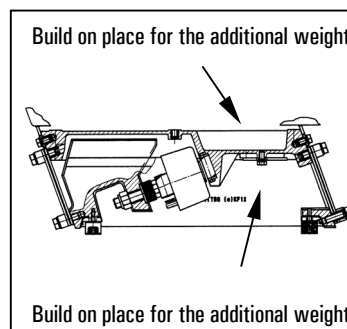

Figure 4-2 Build on place for the additional weight
- ☞ Mount the working unit and if required, the additional weights (see figure 4-2) by screw joint onto the small-parts conveyor drive. Depending on the construction of the working unit, the fixing is carried out from above or frontal. The appropriate tightening torque for the screws is shown in table 4-1 below.